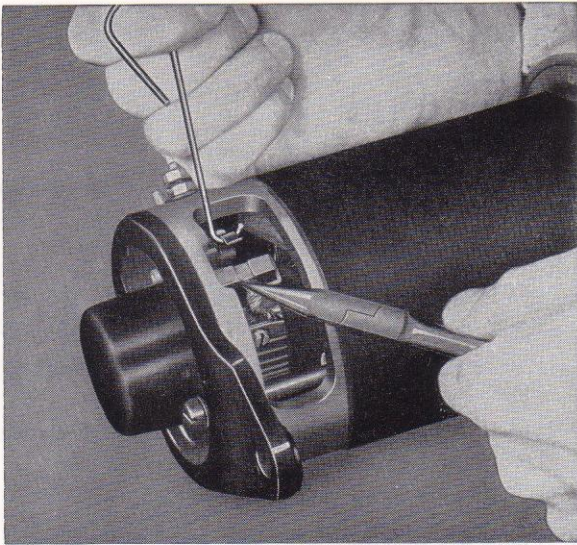

Fig. 5. Removing the brush
2. Disconnect the brush connecting leads. Lift up the springs for the brushes with a hook and pull the brushes up as shown in Fig. 5.